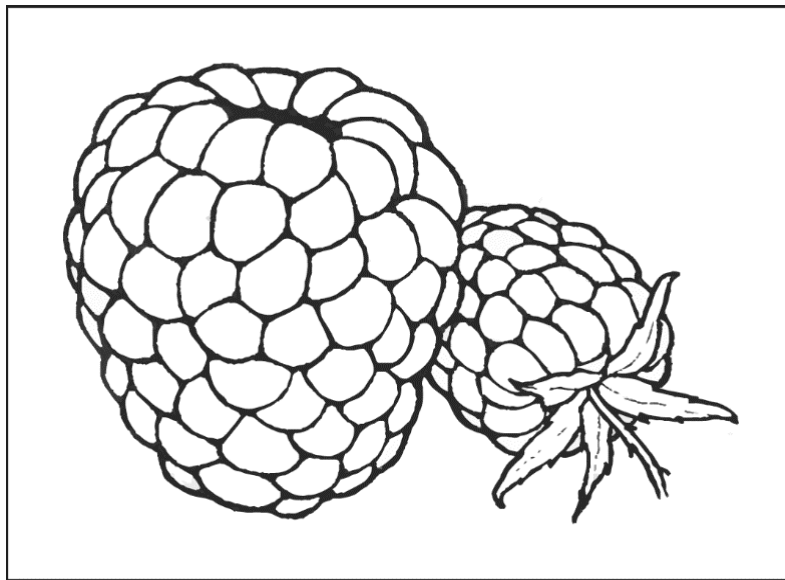

Figure 61. Aggregate Berry
6. Other Edible Plants. Dandelion, grasses, aggregate berries (e.g., raspberries (see figures 61, table 24)), clover, and plantains are easily identifiable food sources. Check borders of an evasion chart for other edible plants in the region.